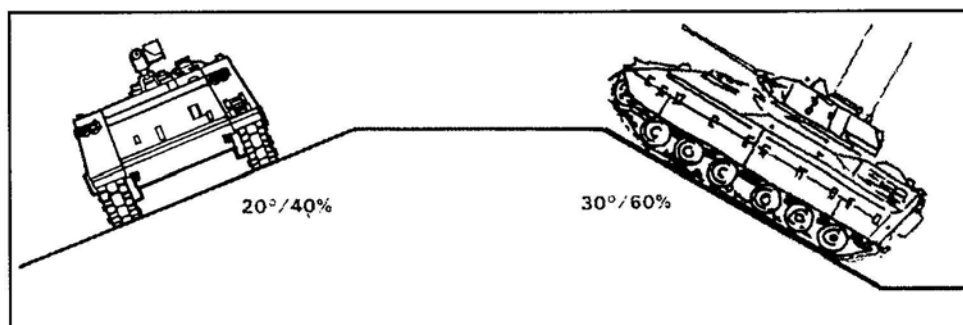

Figure 2. Climbing slope and side slope capabilities.
- (2) Military vehicles are designed to climb 60-percent (30-degree) slopes if the surface is dry and firm. If gravel, vegetation, or mud is on the slope, the practical slope-climbing capability is about 40 percent (20 degrees) (Figure 2).
- (b) The side slope is more important than the climbing slope. A 40-percent side slope is the maximum in good weather (Figure 2). Traverse a side slope slowly and without turning. Rocks, stumps, or sharp turns can cause a downhill track to be thrown under the vehicle, which is a major recovery task.
- (3) For tactical reasons, movement is often in draws or valleys due to the cover they provide. Side slopes make slow movement necessary.